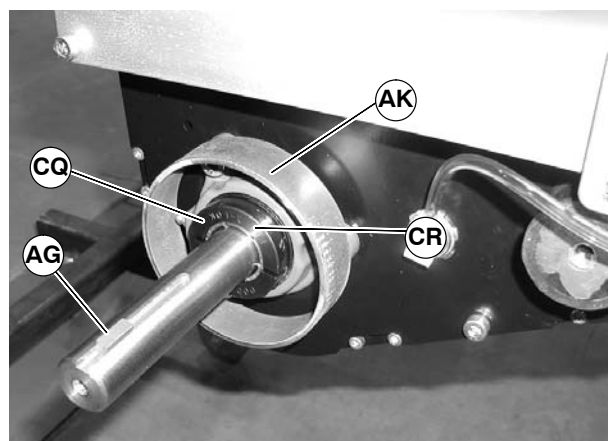

Figure 86
3. Remove spacer ring (AK of Figure 86) and key (AG). Loosen clamp screw (CQ) and remove bearing collar (CR).
7. Reinstall bearing collar (CR of Figure 86). Tighten clamp screw (CQ) to 95 in-lbs (11 N-m).
8. Reinstall key (AG of Figure 86).